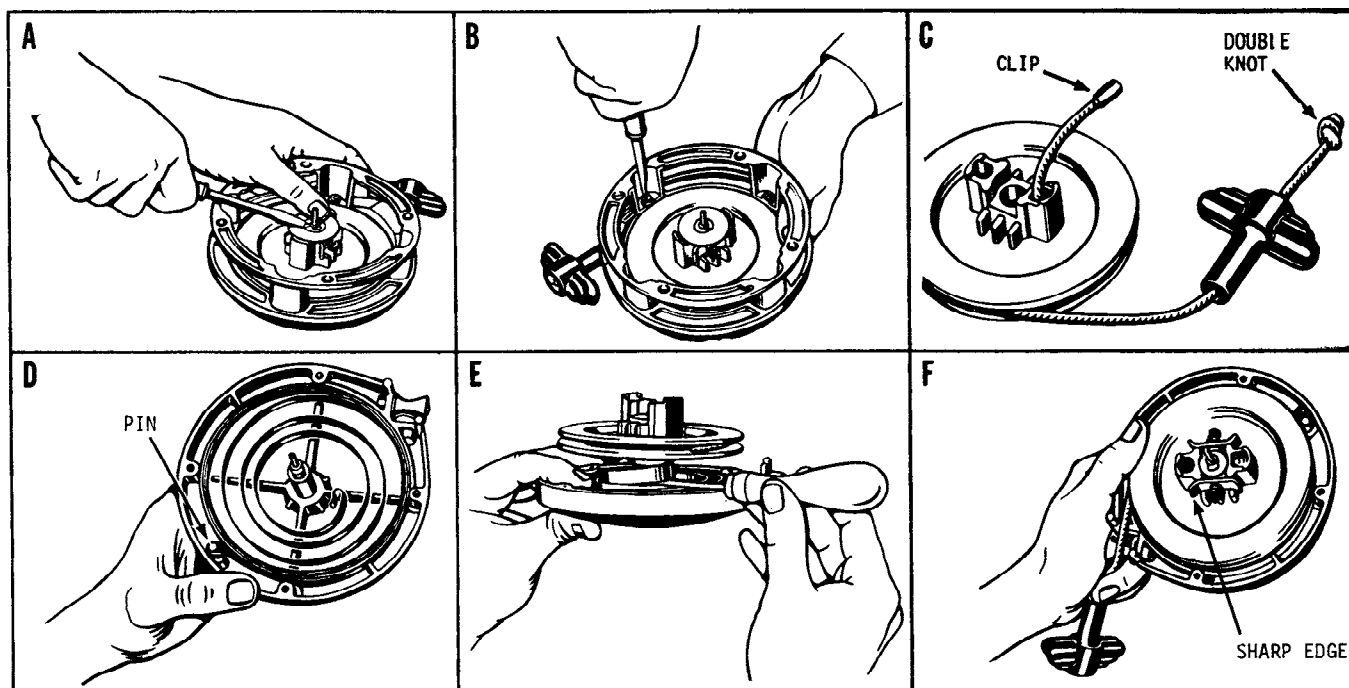

Figure 7-2. Fairbanks-Morse Starter Disassembly.
1. To remove starter from engine, remove four mounting bolts. Refer to Figure 7-2.
2. Starter rope is now completely wound on rotor in the direction shown in Figure 7-2.